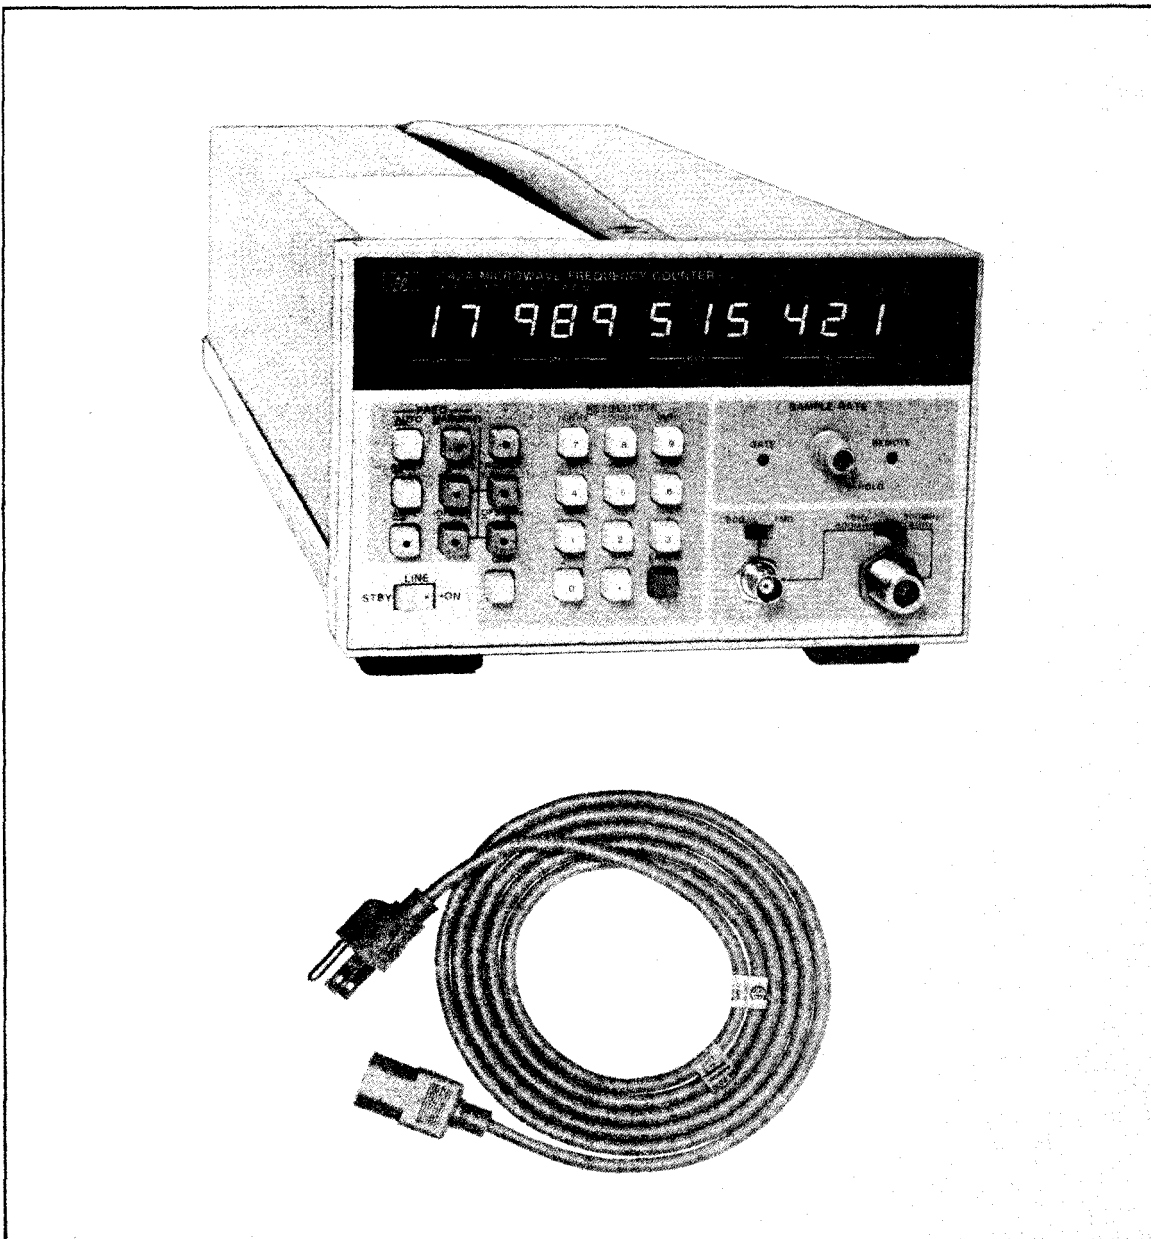

Figure 1-1. Model 5342A Microwave Frequency Counter
This manual describes Microwave Frequency Counter TD-1225A(V)1/U (fig. 1-1) and provides maintenance instructions. Throughout this manual, the TD-1225A(V)1/U is referred to as the Hewlett-Packard (HP) Model 5342A.
1-1. This manual provides operating and service information for the Hewlett-Packard Model 5342A Microwave Frequency Counter, shown in *Figure 1-1*.